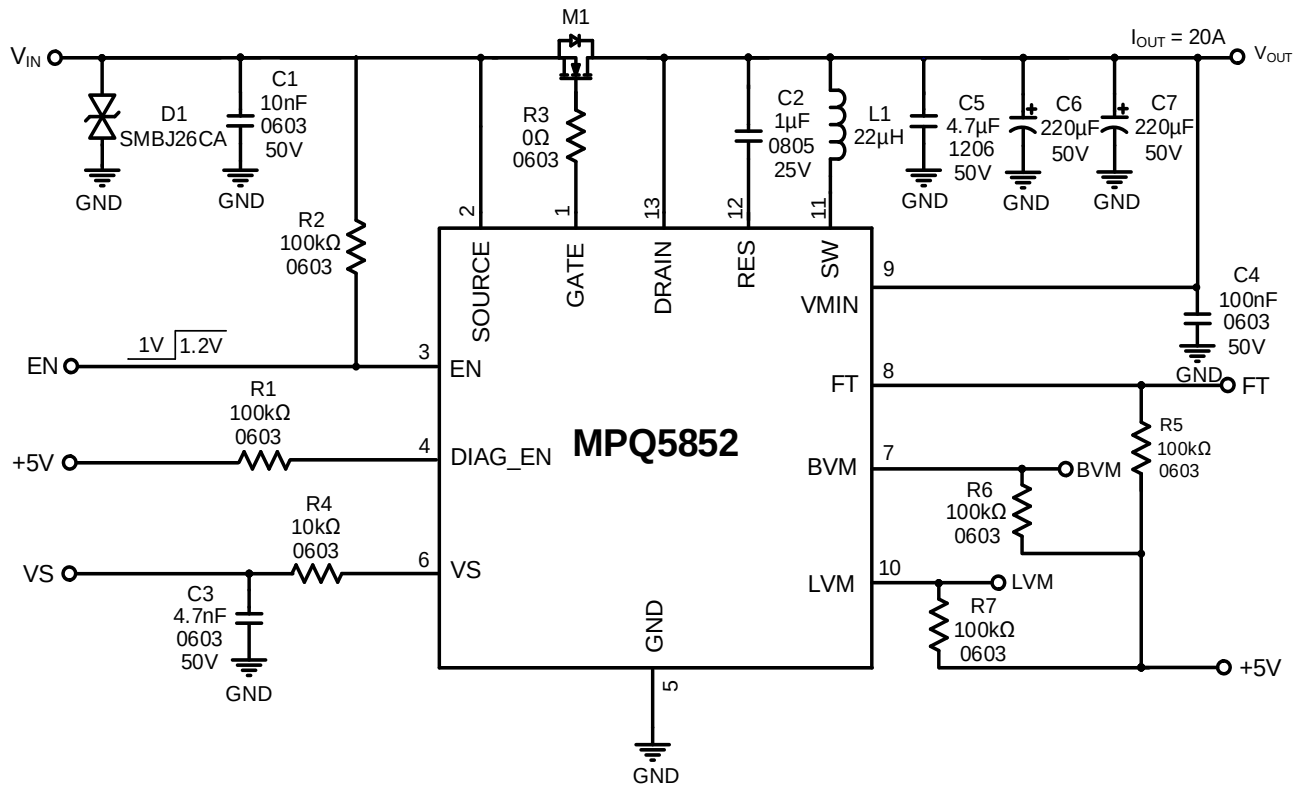

Figure 8: Typical Application Circuit (12V Automotive Battery with a 20A Load) ⁽¹⁴⁾ ⁽¹⁵⁾ ⁽¹⁶⁾
- 13) The recommended PCB layout is based on Figure 8 on page 34.